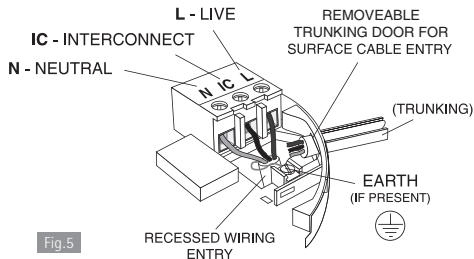

Fig.5
IC: Interconnect - see figures 5 and 6 and further information in Section 2.6.
4. If the mains wires are recessed, bring the wires through the rear hole in the mounting plate as shown in Figure 5.
- position the mounting plate so the cable trunking is as shown in Figure 5.